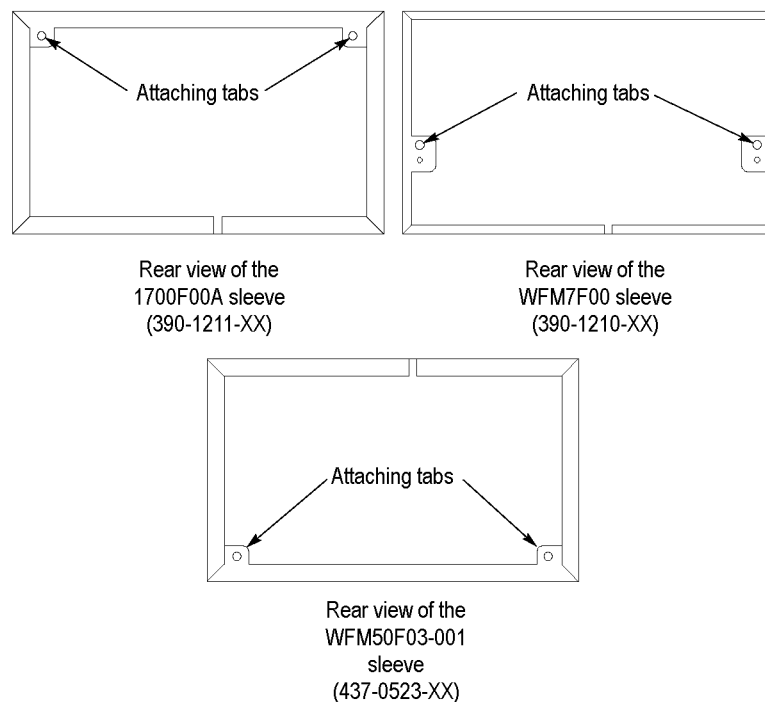

Figure 6: Rear view of three sleeves, showing the attaching tabs and screws
1. Refer to the figure to choose the appropriate sleeve in which to install your instrument. (See Figure 6.)
- The WFM7F00 sleeve (Tektronix part number 390-1210-XX) and the WFM50F03-001 sleeve (Tektronix part number 437-0523-XX) are designed for the instruments listed under Supported Products. (See page 1.) The rear panel attaching tabs on these sleeves are near the vertical center of the rear frame. (See Figure 6.)
- The 1700F00A sleeve (Tektronix part number 390-1211-XX) is designed for 1700 Series, WFM601 Series, older half rack instruments, 760A, and 764. (See page 1.) The rear panel attaching tabs on this sleeve are closer to the top of the rear frame. (See Figure 6.)
- For the WFM7F00 and WFM50F03-001, insert the screws through the rack adapter, through the tabs on the sleeve, and then into the instrument rear panel. (See Figure 6.)
- For the 1700F00A, insert the screws through the holes on the top right and left of the sleeve and into the instrument rear panel. (See Figure 6.) The screws do not attach to the rack adapter; this sleeve is held in place by the button on the inside front of the rack adapter.